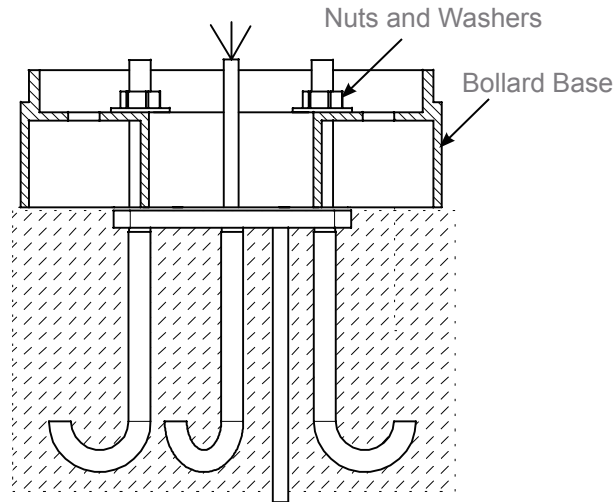

Figure3
5. Place the Bollard Base over Anchor Bolts (3) and tighten all the Nuts and Washers (order separately or customer supplied). See Figure 3.